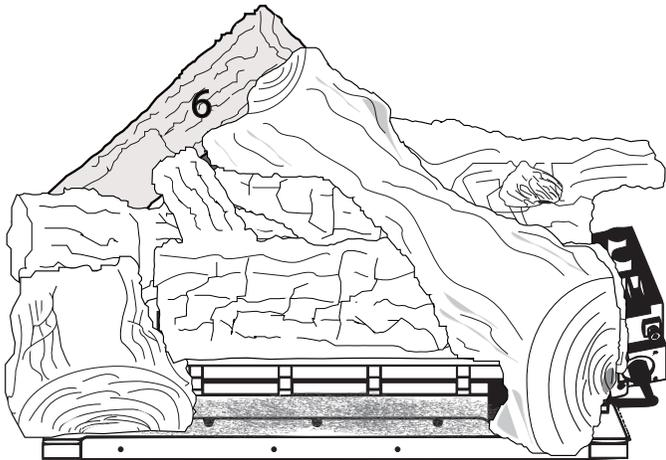

Figure 5.25 - Log #6 Placement
- Place Log #6 by lining up the locating pins that are on Log #1 and Log #2 with the slots on the bottom of Log #6. When in place, Log #6 will be leaning on Log #5. See Figure 5.25.